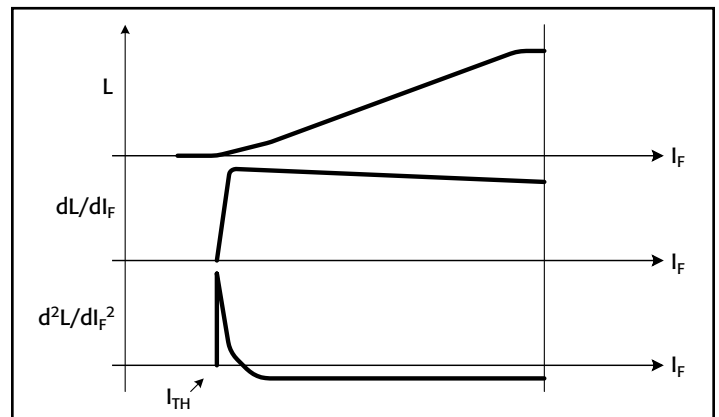

Figure 4. Graphical Calculation of Threshold Current
The threshold current is the current at which the LD starts lasing. One technique for threshold determination is the second derivative technique. The threshold for this method is defined as the first maxima of the second derivative of the light output and is a calculation based on the light measurement (L). This is highlighted in *Figure 4*.